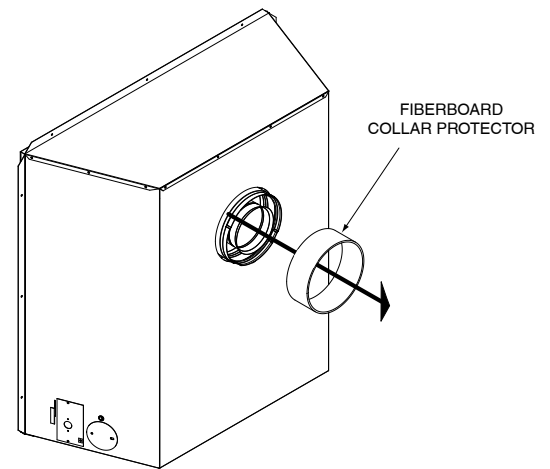

Figure 4 - Removing Collar Protector (Rear Vent) Fireplace
**Note:** On rear vent models you must remove the fiberboard collar protector located on the rear collar before installing the fireplace and venting system. See Figure 4.